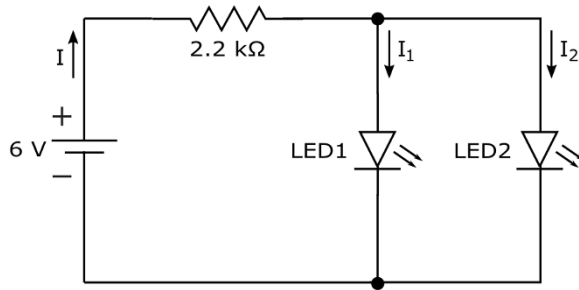
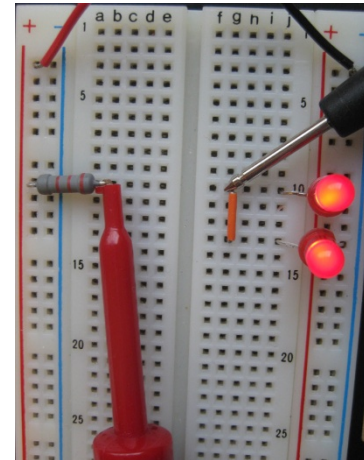
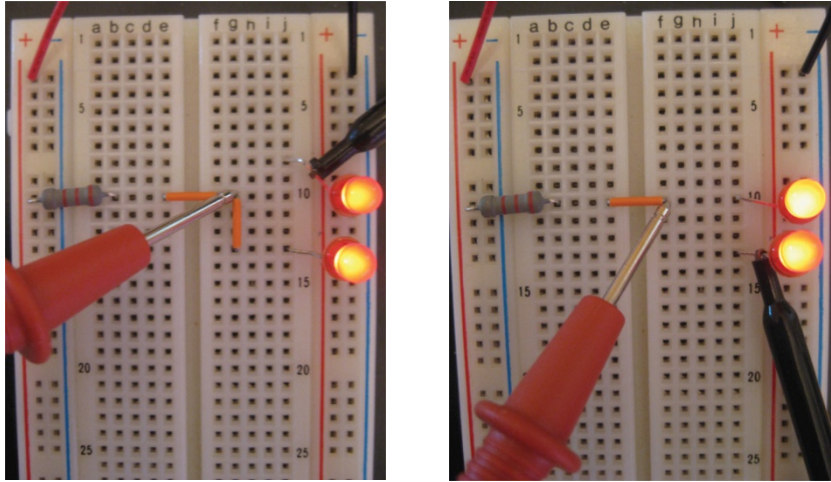

Figure 4-3: Light bulbs are often arranged in a parallel circuit so if one burns out, the rest stay lit.
Figure 4-5: Measure the current flowing through the resistor.
Figure 4-6: Measure the current flowing through LED1 (left) and LED2 (right).
connections — such as those in the circuit shown in Figure 4-3. With a parallel circuit, current can flow in multiple paths, so even if several baseballs take out bulbs in your sign, the rest of it stays lit. (Of course, you may be left with a glowing sign reading, “BEST FOO I OWN.” There are pros and cons to everything.)
Here’s how the parallel circuit in Figure 4-3 works: Current flows from the positive battery terminal, and then splits at the junction that leads to the parallel branches of the circuit, so each LED gets a share of the supply current. The current flowing through LED1 doesn’t flow through LED2. So if your restaurant sign has 200 LEDs wired in parallel and one burns out, light still shines from the other 199 LEDs.
- ✓ **Resistor current (I):** Break the circuit between the resistor and the two LEDs, and insert your multimeter to reconnect the circuit, as shown in Figure 4-5. Because you're placing the multimeter in series with the resistor, you're measuring the current flowing through the resistor. This current is labeled I (refer to Figure 4-3).
- ✓ **LED1 current (I_1):** Remove the multimeter and reconnect the resistor to the LEDs. Then disconnect the positive lead of LED1 from the resistor. Insert the multimeter leads into the circuit, as shown in the photo on the left in Figure 4-6. Because the multimeter is in series with LED1, you're measuring the current that flows through LED1. This current is labeled I_1 (refer to Figure 4-3).
- ✓ **LED2 current (I_2):** Remove the multimeter and reconnect LED1. Then disconnect the positive lead of LED2 from the resistor. Insert the multimeter into the circuit in series with LED2, as shown in the photo on the right in Figure 4-6. (Note that I removed the lower orange jumper to disconnect LED2 from the resistor, and then inserted my multimeter at that opening in the circuit.) You're measuring the current that flows through the LED2, or I_2 (refer to Figure 4-3).